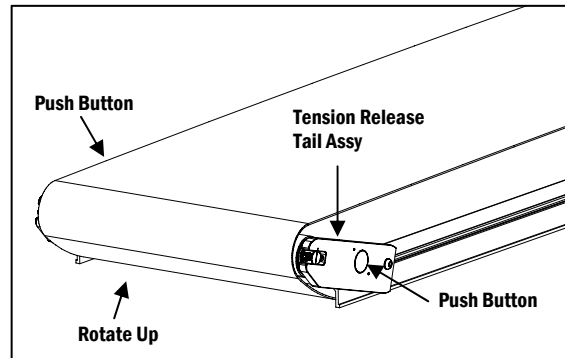

Figure 1
b. At the tail end of the conveyor, locate the push buttons on both sides of the Tension Release Tail Assembly. Simultaneously push in both buttons to disengage the locking mechanism, and rotate the Tension Release Tail Assembly up towards the drive end of the conveyor (**Figure 1**).